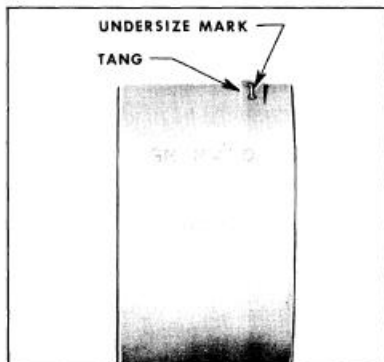

Figure 2-27—Location of Undersize Mark on Bearing Shell
7. If a new bearing is being selected, try a standard size, then each undersize bearing in turn until one is found that is within the specified limits when checked for clearance with Plastigage. **NOTE: Each undersize bearing shell has a number stamped on outer surface on or near the tang to indicate amount of undersize. See Figure 2-27.**
8. The described clearance with a new bearing is .0005" to .0025". If this clearance cannot be obtained with a standard size bearing, insert an undersize bearing and check again with Plastigage. **NOTE:** Each undersize shell has a number stamped on outer surface on or near the tang to indicate amount of undersize. See Figure 2-27.
7. Remove compression rings. Then remove oil ring by removing the two rails, spacer, and expander which are separate pieces in each piston third groove. See Figure 2-27.